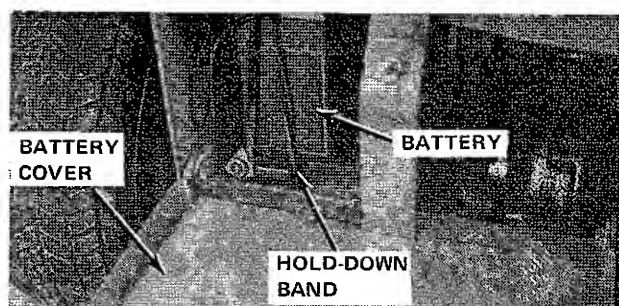

Figure 6-14. Battery Installation
1. Open battery cover in rear of vehicle and remove hold-down band from battery (Figure 6-14).